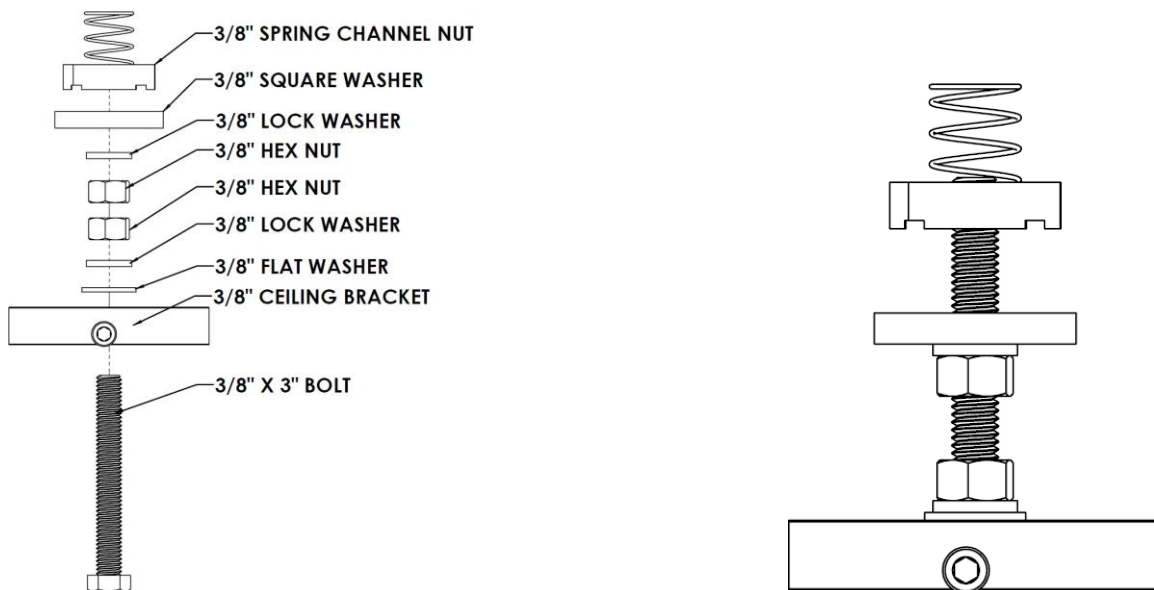

Figure 145: **Ceiling Track Bracket Assembly**
- Figure 145 diagrams this assembly.